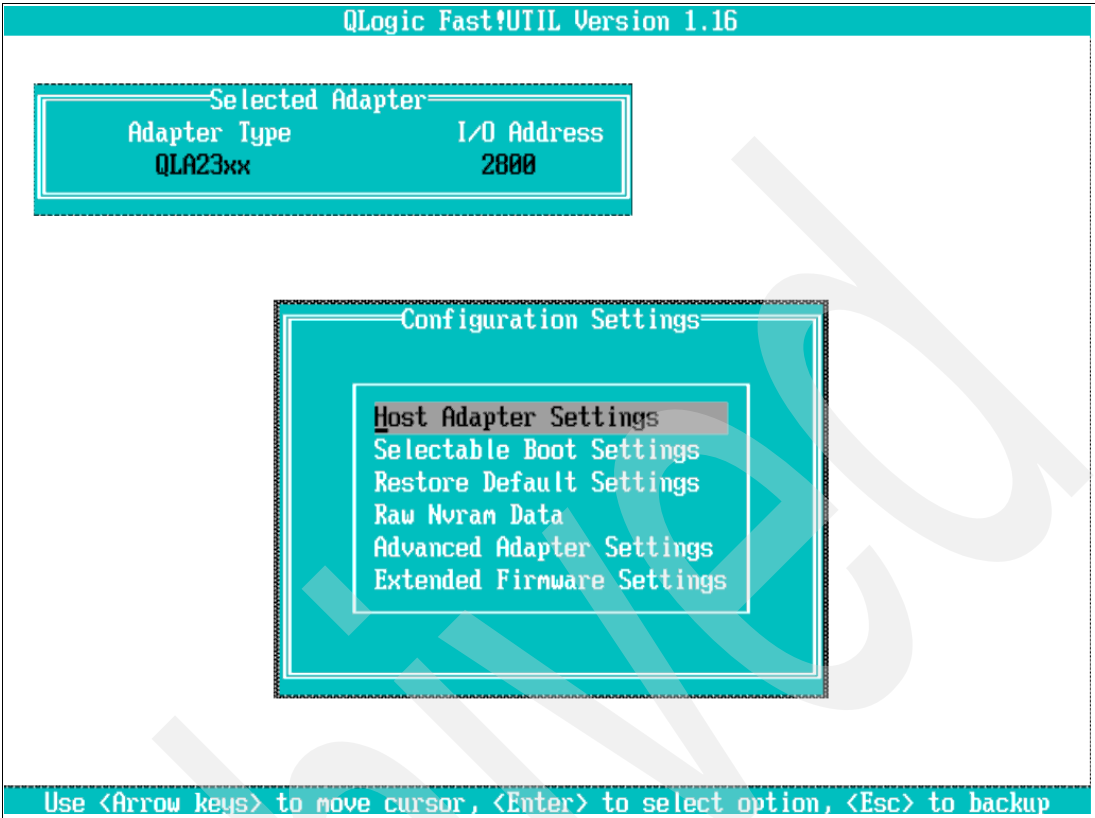

Figure 27-4 Configuration Settings menu
3. In the Configuration Settings menu, shown in Figure 27-4, select **Adapter Settings**.